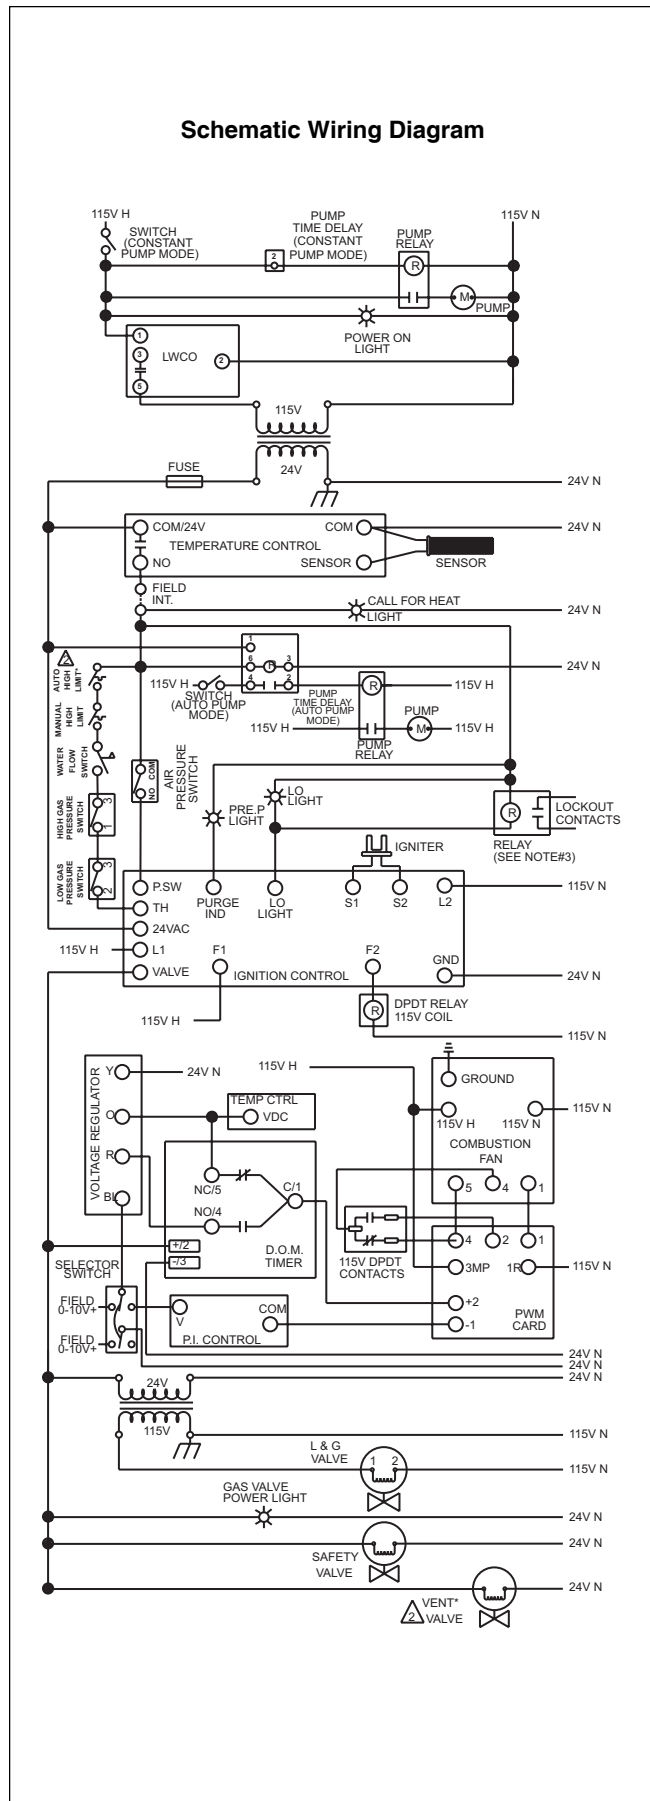

Figure 30. Wiring Schematic, Model 1200, Pump-Mounted, Standard and Codes A, C, D, F and G.
9. Start up boiler according the procedure in this manual. Operate the entire system, including the pump, boiler, and radiation units for one (1) hour.
First, shut off the manual gas valve, and call the unit for heat. Main gas terminals will be energized, attempting to light, for seven (7) seconds, and then will de-energize. The unit will go into lockout mode. Second, turn the power off, press the manual reset button shown in detail A of Figure 30, open the manual gas valve and allow the unit to light. While the unit is operating, close the manual gas valve and ensure that power to the main gas valve has been cut.
16. Within three (3) days of start-up, recheck all air bleeders and the expansion tank as described in Steps 4 and 8 above.